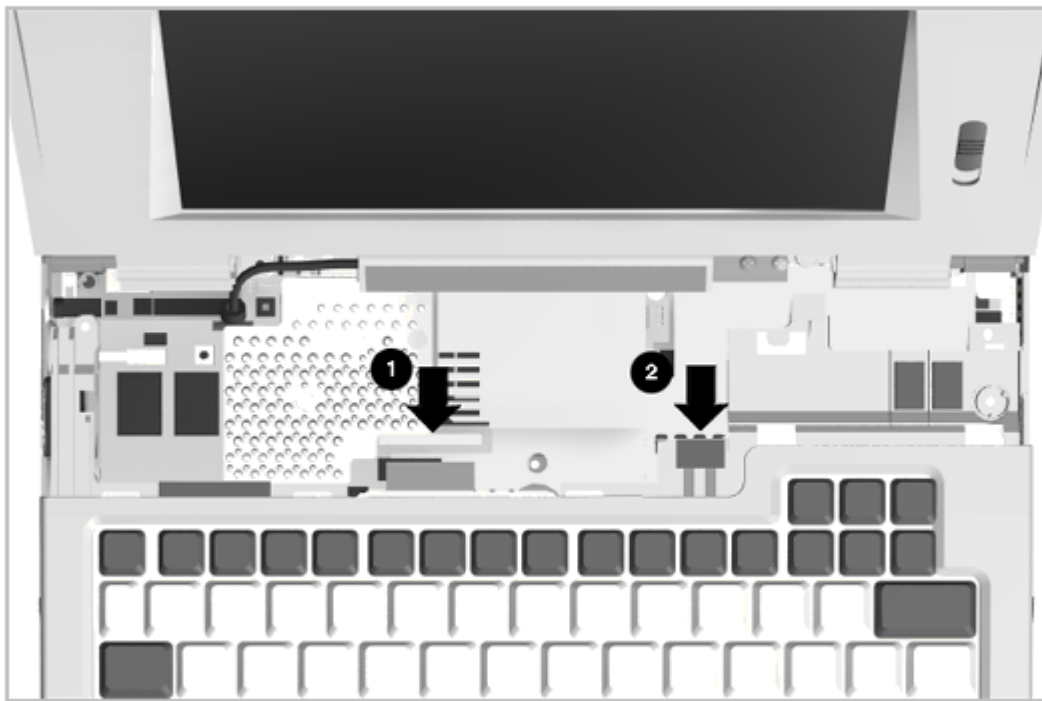

Figure 5-39. Disconnecting the Keyboard
5. Separate the keyboard from the base and shift it slightly to gain better access to the keyboard ZIF connector [1] (Figure 5-39), then disconnect the ZIF connector.
6. Disconnect the EasyPoint II controller cable [2] from the system board (Figure 5-39).